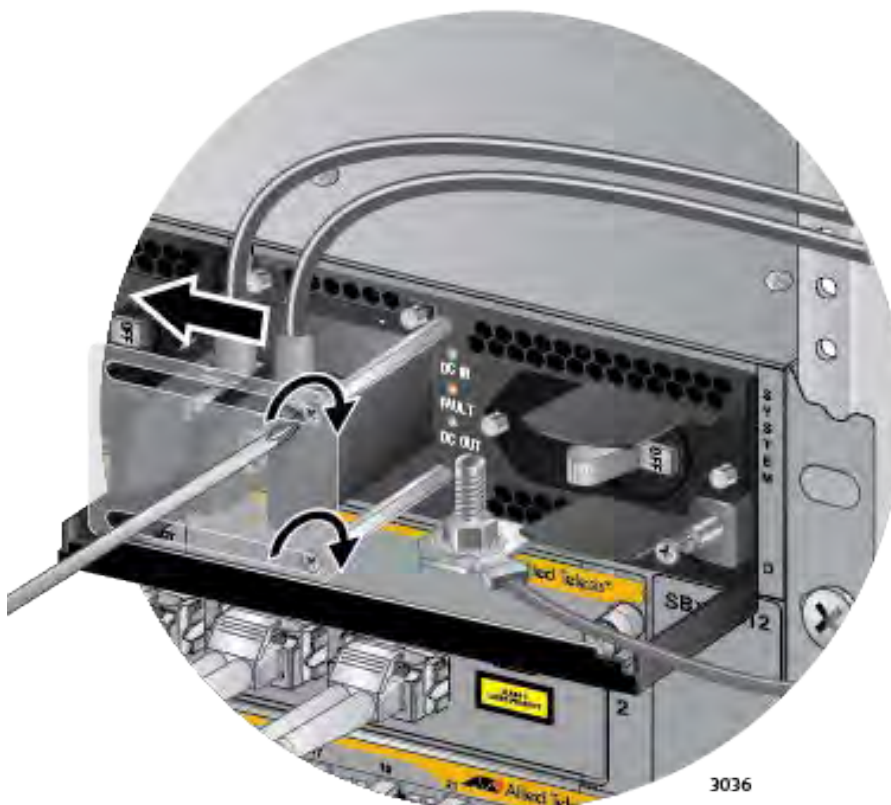

Figure 141. Closing the Plastic Cover over the Terminal Connectors
8. Slide the plastic cover to the left and lightly tighten the two screws with a #1 Phillips-head screwdriver to secure the cover. See Figure 141 on page 220. You might need to lift the locking handle slightly to access the bottom screw.
- Slide the plastic cover to the left and lightly tighten the two screws with a #1 Phillips-head screwdriver to secure the cover. See Figure 141 on page 220. You might need to lift the locking handle slightly to access the bottom screw.